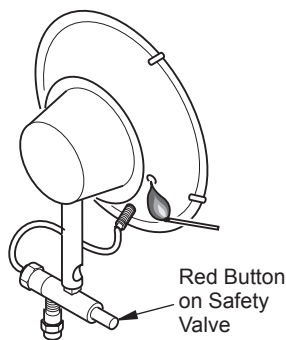

Figure 6 - Lighting Heater With a Match
2. Repeatedly push and release the piezo ignitor (dual burner), or place a lighted match near the face of the heating element (mesh screen) of the burner you are lighting, using the hole located on the side of the reflector. See Figure 6.
3. Depress the red button on the safety valve admitting gas to the burner (see Figure 6).